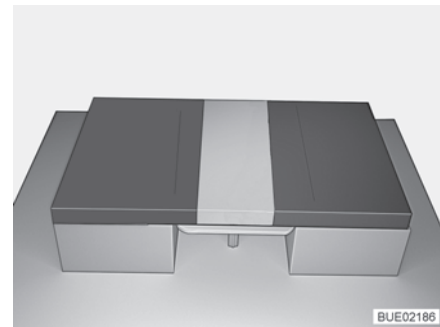

Fig. 105 After conversion
- Insert a back cushion between the seat cushions on the table (see Fig. 105).